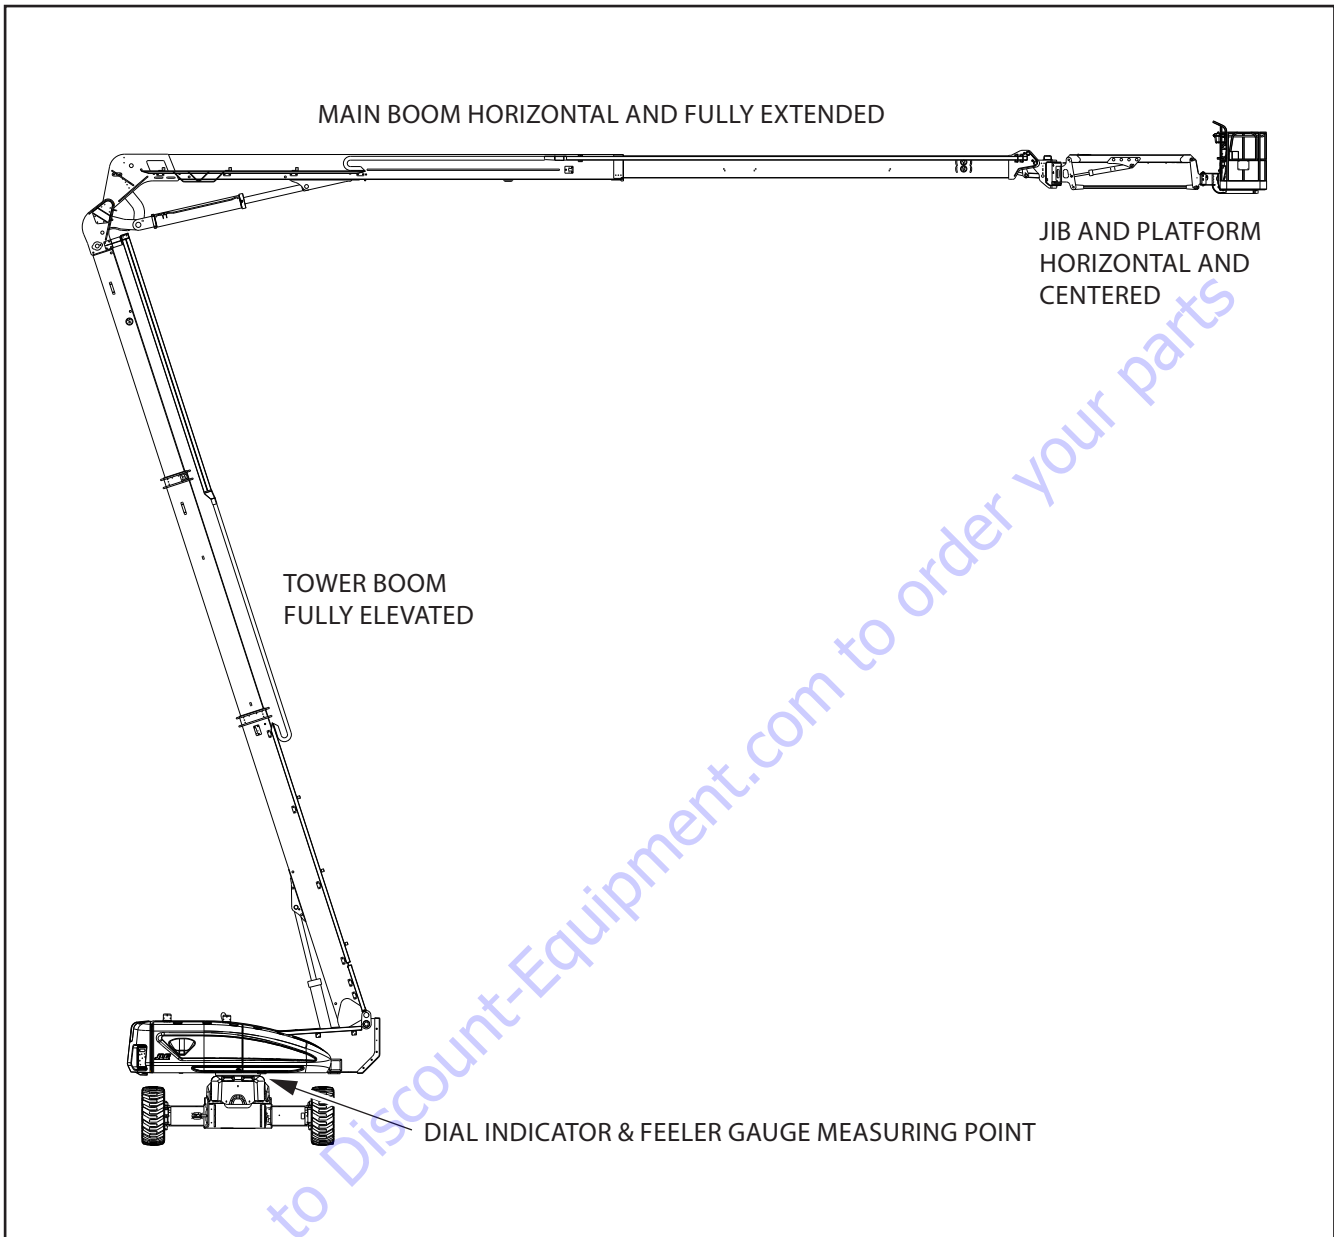

Figure 3-50. Turntable Bearing Service Boom Placement - 3
- e. Fully raise the tower boom. Lower main boom to be horizontal and fully extended. Position jib and platform to be horizontal and centered. (See Figure 3-50.)
- f. At position indicated in Figure 3-50., try and insert a 0.0015 in (0.038 mm) feeler gauge between bolt head and hardened washer.
5. Position machine as follows and as shown in Figure 3-50.